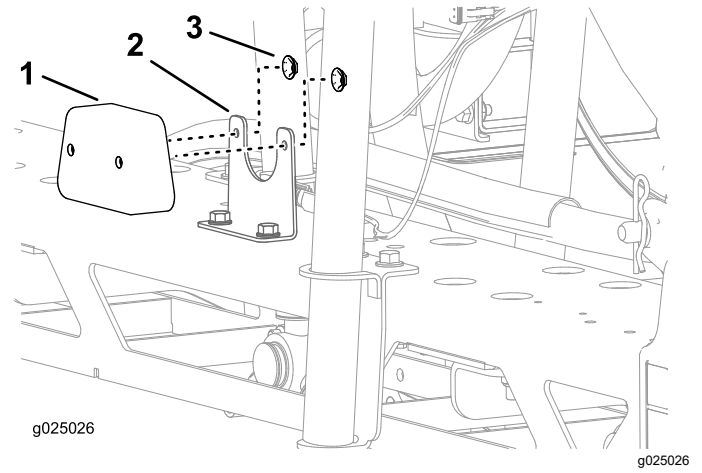

Figure 2
3. Align the rear-light assembly to the rear-light bracket and secure the assembly with the 2 stamped-steel nuts as shown in Figure 2.